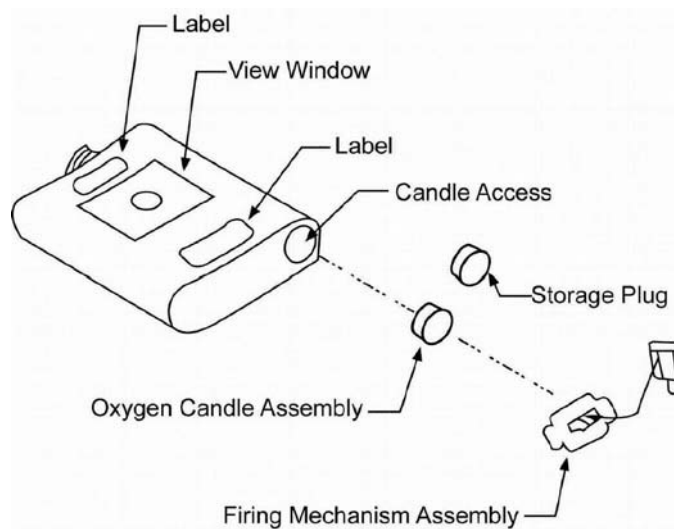
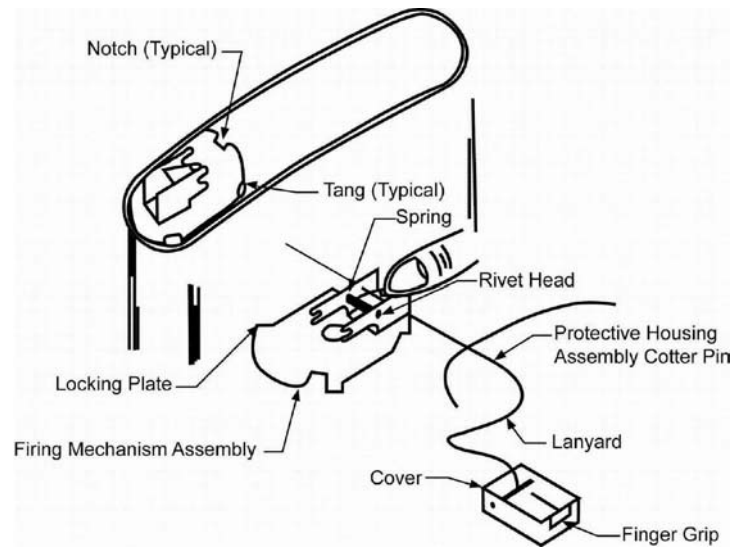

Figure 077-3-44. Exploded View of Training Canister Assembly
Figure 077-3-45. Detail of Training Canister Firing Mechanism Assembly
077-3.3.11.2 Illustrated Views. An exploded view of the training canister is provided in Figure 077-3-44. The firing mechanism assembly is illustrated in Figure 077-3-45.
- a. Remove cover from firing mechanism, then remove the mechanism and storage plug (see Figure 077-3-44). Save the storage plug, and reuse it when storing a partially used canister to prevent moisture from entering the canister body.
- c. Ensure the firing mechanism is cocked and the cotter pin is in place. Place firing mechanism over the candle assembly with candle primer housing projecting through the center hole. Line the notches up with the tangs, as illustrated in Figure 077-3-45.
- e. While holding firing hammer in this position, replace the cotter pin through the holes in the frame from the same side (see Figure 077-3-45).